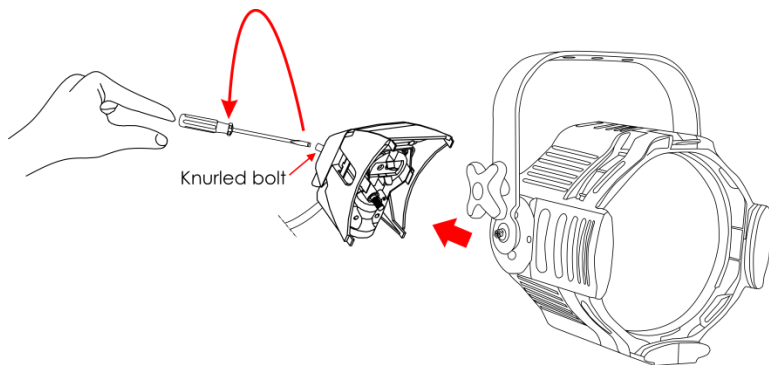

Fig. 04
- 02) Loosen the knurled bolt and remove the lamp housing (Fig.04).